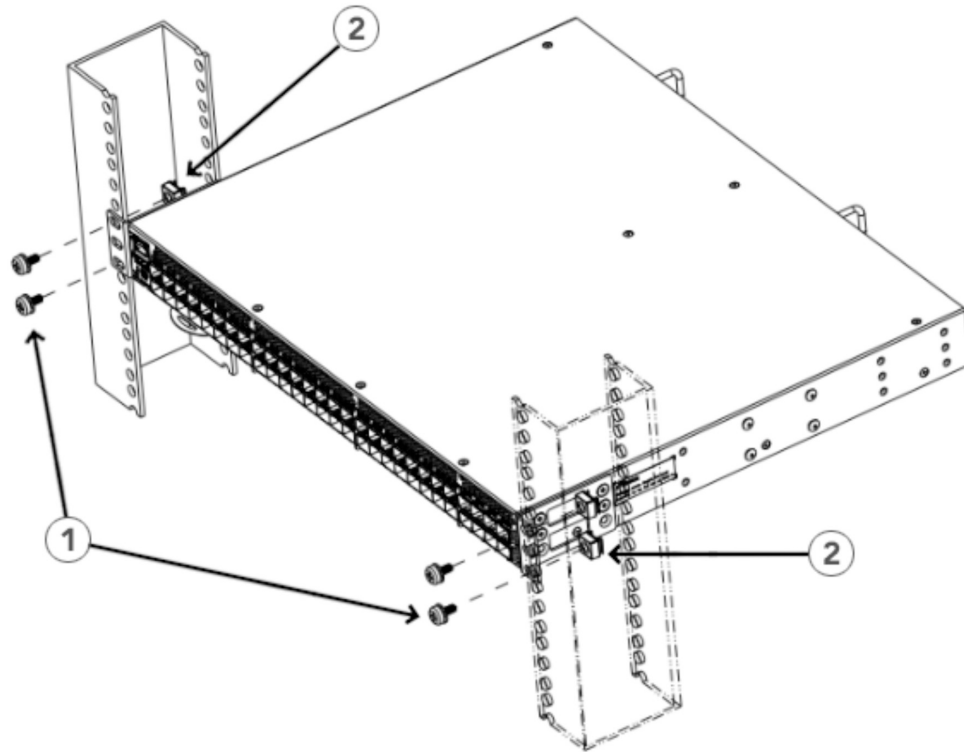

Figure 17. Attaching the Front Brackets to the Rack
1. Position the device in the rack, as shown in Figure 17, providing temporary support under the device until the rack kit is fully secured to the rack.